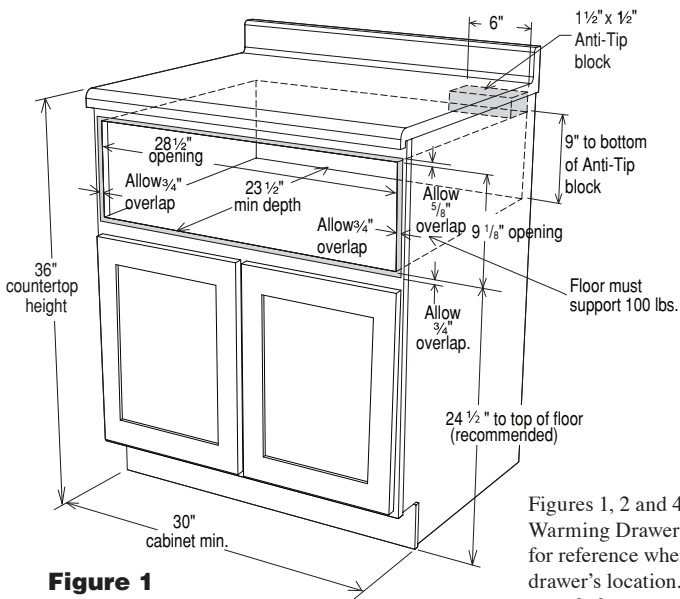
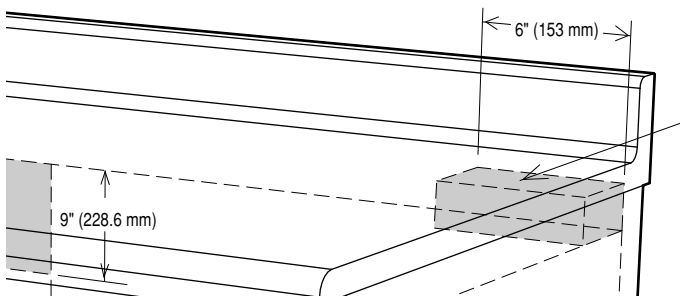
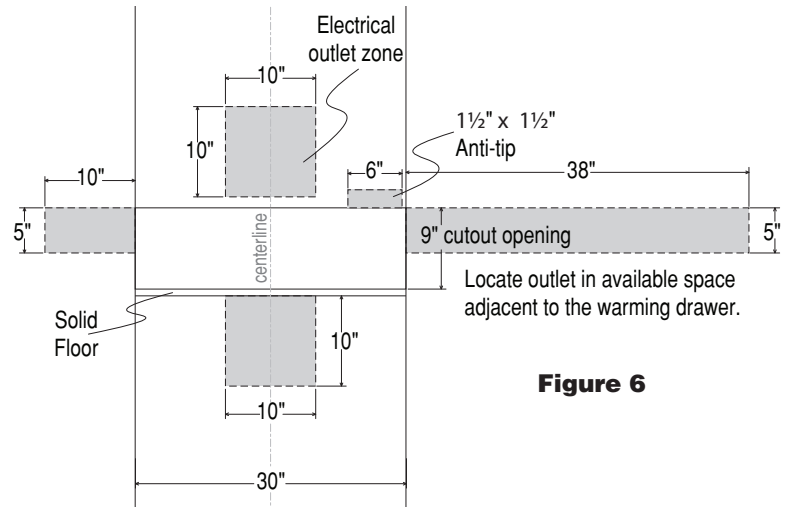

Figure 1
Figure 5
Figure 6
For SAFETY CONSIDERATIONS do not install drawer in any combustible cabinetry, which is not in accordance with the stated clearances and dimensions on page 2. See Figures 1 and 2.
- Dimensions that are shown in Figures 1 and 2 must be used. Given dimensions provide minimum clearance. The electrical outlet can be located in the shaded areas shown in Figure 6.
Figures 1, 2 and 4 contain many Warming Drawer measurements for reference when planning the drawer's location. See Figure 5, page 3, for suggested Warming Drawer electrical layout.
To reduce the risk of tipping of the drawer, the Anti-Tip block must be properly installed located 9-inches above the floor on which the Warming Drawer will sit. The 6-inch Anti-Tip block must be provided by the installer. See Figures 1, 2, and 4. The Anti-Tip block prevents serious injury that might result from spilled hot liquids.